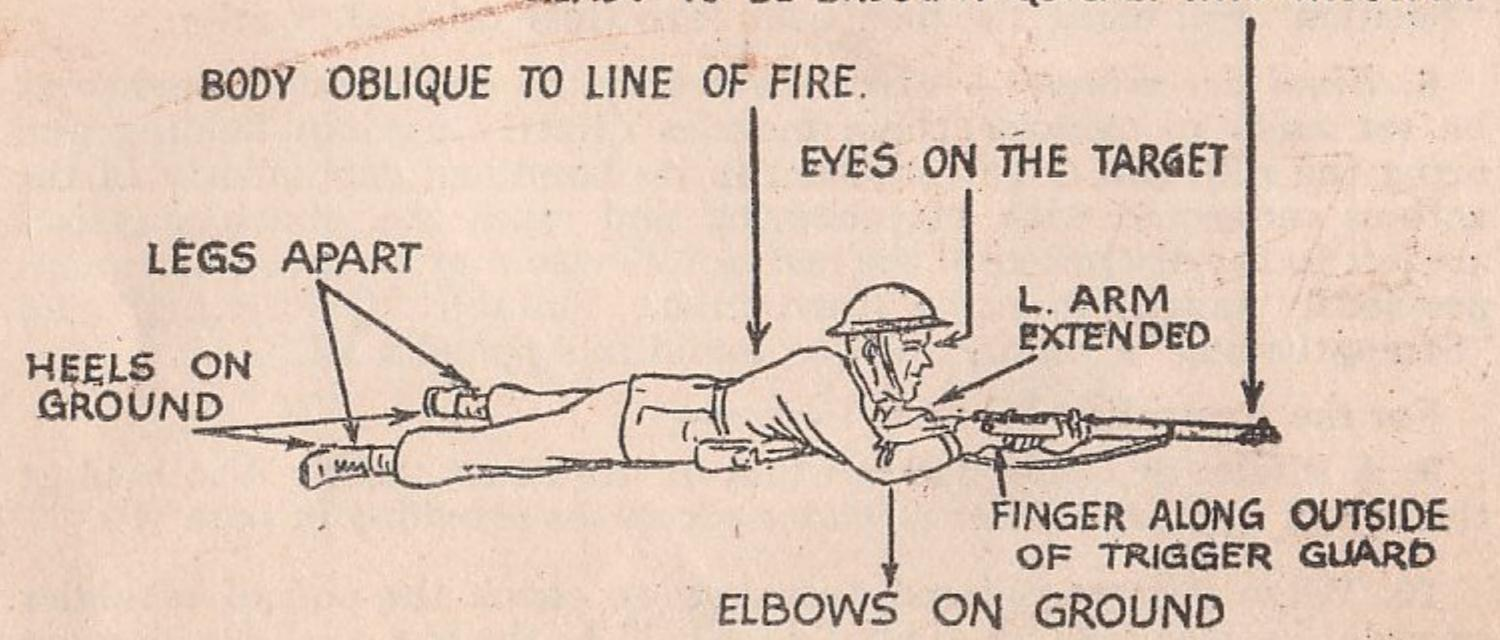

Fig. 13
Man will be taught to adopt the lying position rapidly and to handle the rifle with as little movement as possible. The oblique angle of the body (see Fig. 13) must not be exaggerated.
- i. To lie down.—Take a long pace forward to the right front with the left foot. At the same time change the rifle into the left hand, grasping it at the point of balance. Place the right hand on the ground in line with the left foot and lie down: the right hand finally assuming grip at small of butt, finger alongside trigger guard. (During this movement push the rifle forward in the direction of the target and lower it to the ground; the left arm will now be extended to the front) (see Fig. 13).
Instructor specifies points illustrated in Fig. 13.